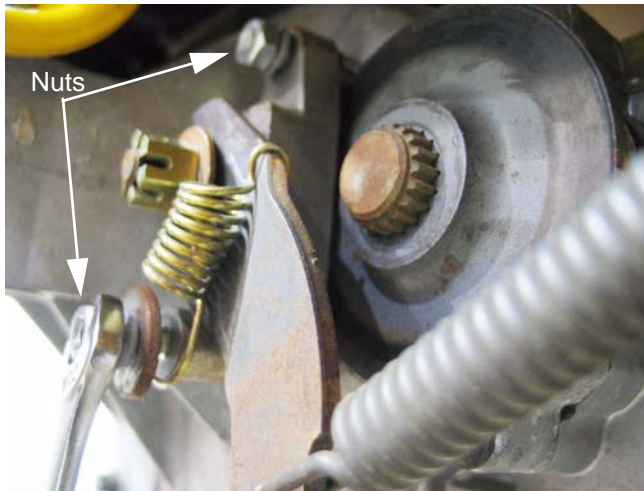

Figure 32.24
32.24. Install the brake caliper, tightening the two nuts to 7 to 10 ft.-lbs., then check and adjust the pad-to-rotor clearance. See Figure 32.24.